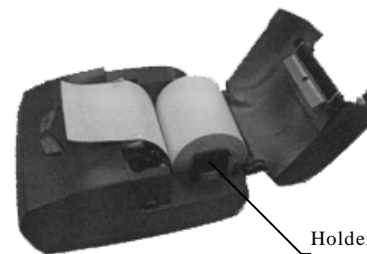

Figure 2-3 Loading paper
(1) Open the cover of the printer;
- (2) Put a paper roll into the printer shown as figure 2-3. The core of the roll should be put on the paper holder and paper edge should be pull out;
- (3) Close the cover and let paper edge locate outside.